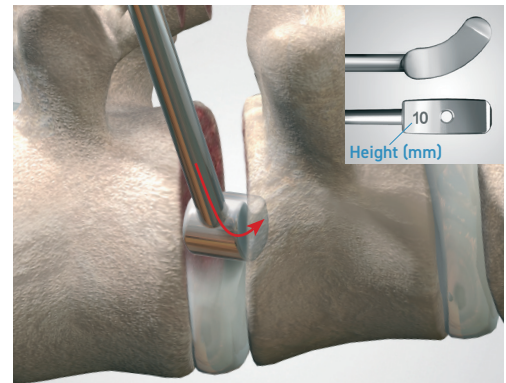

Figure 6
- ▲ After distraction has been achieved, attach a suitable implant sizer to the quick-connect handle. Length and height measurements are clearly marked on the curved sizers (Fig. 6).
- ▲ There is an open cavity in the anterior wall of the sizer head for midline orientation (Fig. 6).